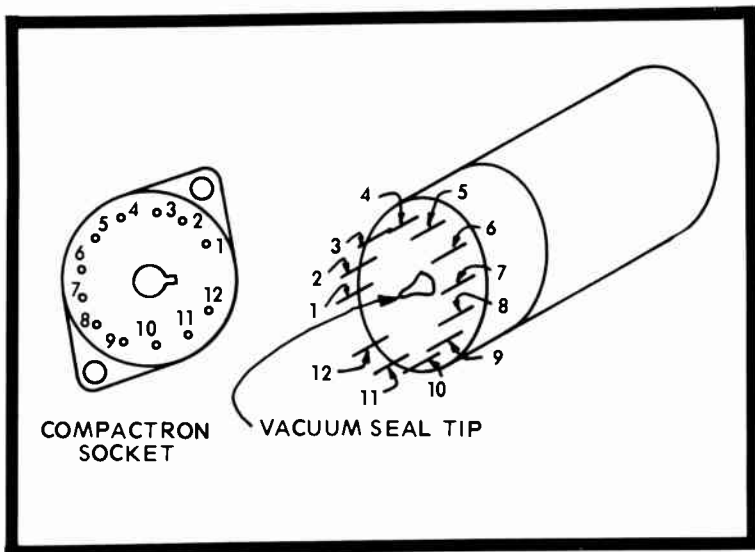

Fig. 5-8. Some receivers use larger all-glass tubes like this sketch of a Compactron and its socket.
**Other all-glass tubes:** There are other types of all-glass baseless tubes in use in TV sets, but these are basically no different than the two types just described. For example, a series of tubes known as Compactrons are considerably larger than the miniature types just described; in fact they are among some of the largest tubes found in a modern TV set. Their base structure differs somewhat from the miniatures, and a word of caution with regard to this difference is in order. All such tubes are, of course, evacuated the same as other types. But miniature tubes previously discussed have the bulb tip at the top, while Compactron types have this tip on the bottom right in the center of the pin circle as shown in Fig. 5-8.
While handling this type of tube, care must be exercised that the glass tip is not accidentally broken. As shown in Fig. 5-8 the socket has a clearance hole for the tip. Nevertheless, it is possible to strike it against some object on the chassis. Breaking this tip will not cause any violent implosion but it will certainly destroy the tube!